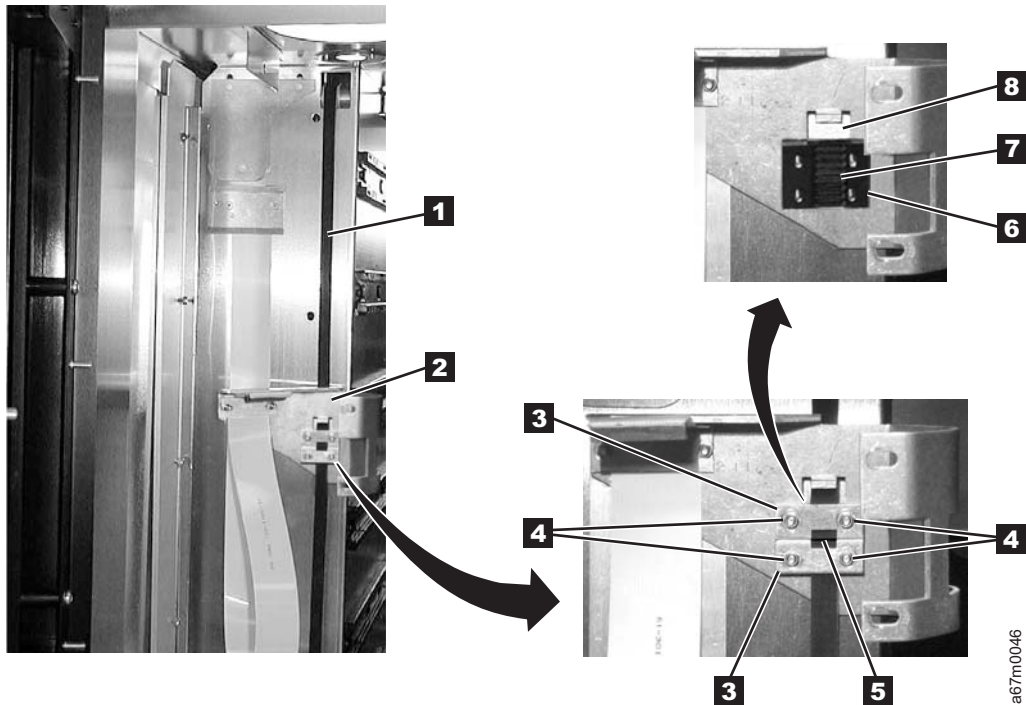

Figure 8-18. Installing Belt Clamps
5. See Figure 8-18 on page 8-22. Find the ends of the Y-axis drive belt at top and bottom of the retaining wall. Bring the top end of belt down behind belt clamp plate **2** and through slot **8** in the belt clamp plate.